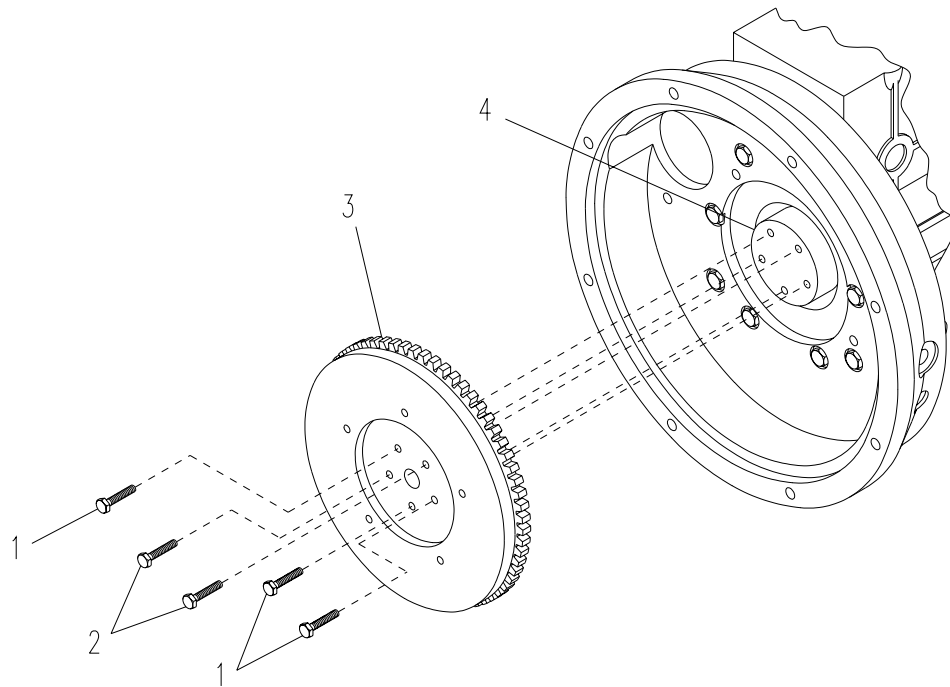

Figure 5-30. Flywheel
- b. Using an appropriate wrench on the crankshaft pulley nut, lock the flywheel (3, Figure 5-30) to prevent it from turning.